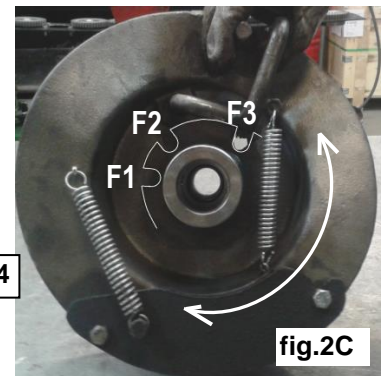

fig.2C
2. **Fig.2C** - I fermi, sotto le camme, in nessun incavo (F1, F2 or F3).
2. **Fig.2C** - The stops, under the cams, in no hollow (F1, F2 or F3).